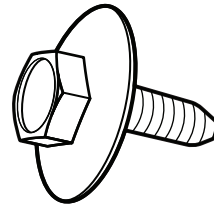

Figure: 3
- Attachment 3: Align the rectangular hold in the side shield with the toe panel screw hole. Insert the Toe Panel Screw (see figure 3) and Loosely tighten it to hold it in place until the Toe Panel is installed.